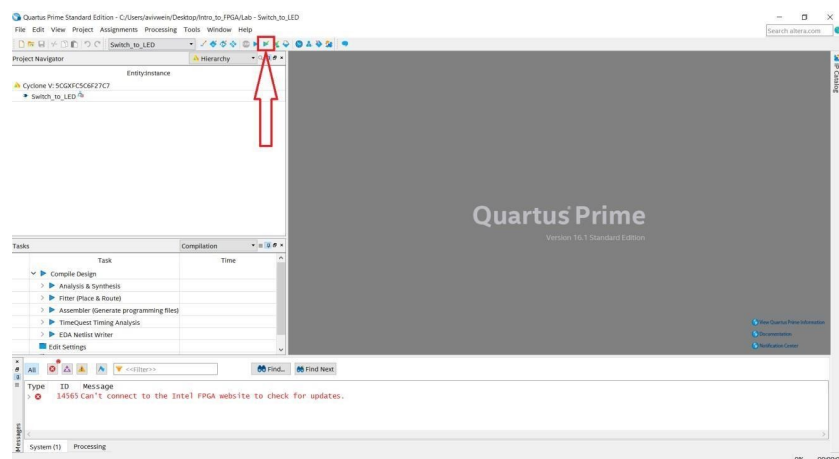

Figure 10: Analysis and Elaboration check mark
- ❑ To run Analysis and Elaboration, click the **Play** button with a green check mark, shown in Figure 10 below.